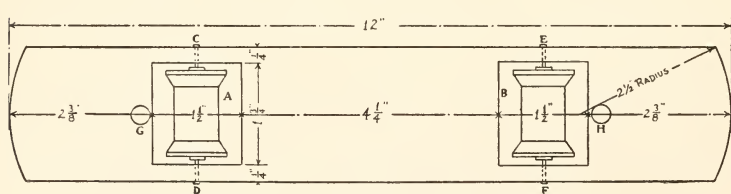
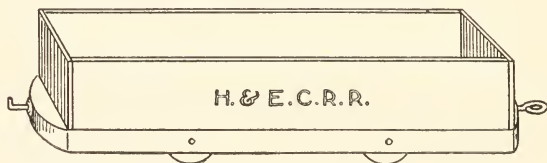

FIG. 79. — A Top View of Car Truck.
FIG. 83. — A Gondola Car.
car from one style into another. Figure 79 shows a top view of a truck. For the bed of this cut a three-eighths-
the pegs before placing the spools in the frame. A quarter-inch hole should be bored in the top of the truck-bed at *G* and *H* (Fig. 79) in which to fasten the two uprights *I* and *J* (see Fig. 81). Make the uprights four inches long and
**A Gondola Car**, such as shown in Fig. 83, should have its truck made similar to Fig. 79, with the exception that